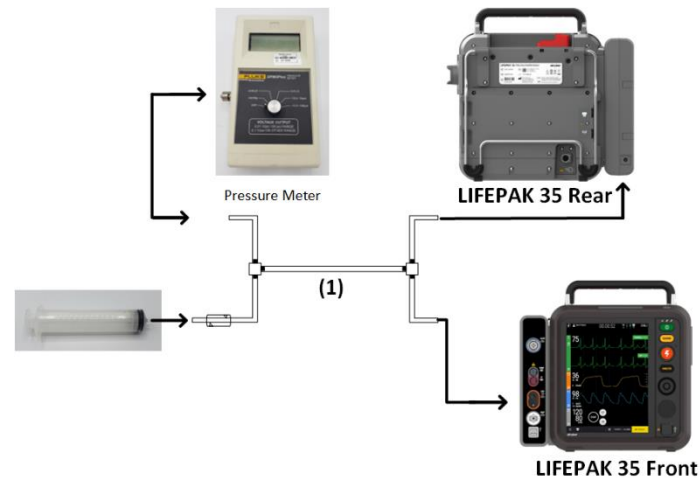

Figure 23
1. Establish the CO₂ Leakage Test setup by using Assy, Tubing, Leak Test, MDT CO₂ P/N 3335916-001 as shown in the following Figure 23:
(Item 1 in Figure 23: 3335916-001)